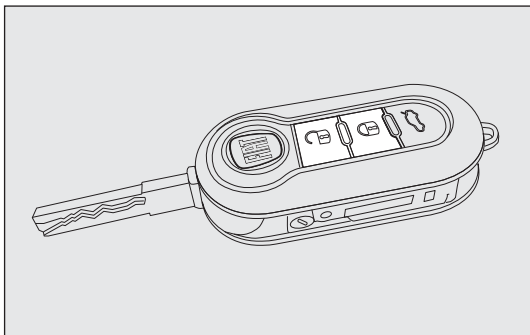
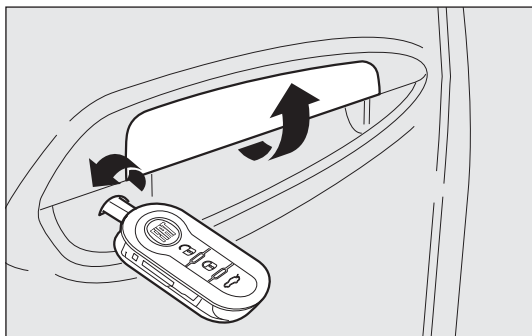
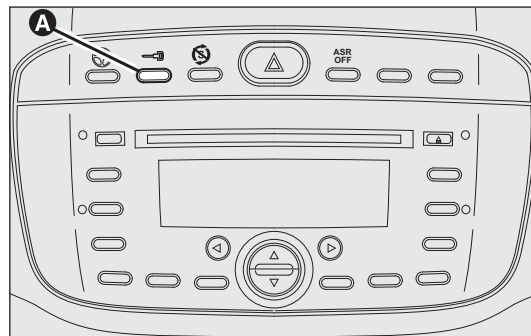

fig. 85
fig. 86
fig. 87
With the doors closed, press button  on the remote control fig. 85 or insert the key in the driver-side door and turn clockwise fig. 86. The locking of the doors is signalled by the LED on button A-fig. 87 flashing once. The doors can be locked only if they are all shut. If one or more doors are open after pressing button  on the remote control fig. 85, the direction indicators and the LED on the button A-fig. 87 flash quickly for approximately 3 seconds.
If one or more doors are open turning the key, only the button LED flashes. If the doors are closed but the boot is open, the doors are locked: the direction indicators (only when locking is carried out using button  fig. 85) and the LED on button A-fig. 87 flash quickly for approximately 3 seconds.
With this function on, you can still unlock the other doors by pressing button A-fig. 87 on the central control panel.
Double-tapping button  on the remote control fig. 85 activates the dead lock device (see “Dead lock”).
Briefly press button  fig. 85 to unlock the doors remotely, turn on the ceiling lights for a limited period and double flash the direction indicators, or insert the key into the driver’s door lock and turn it anti-clockwise as shown in fig. 86.
Press button A-fig. 87 to lock/unlock all doors. The button has an LED that indicates whether the doors are locked or unlocked. When the doors are locked, the LED is on and pressing the button brings about central unlocking of all the doors and turns off the LED. When the doors are unlocked, the LED is off and pressing the button brings about central locking of all the doors. The doors will be locked only if all the doors are properly shut.
it will not be possible to unlock them by pressing button A-fig. 87 on the dashboard.
- locking/unlocking button A-fig. 87;
The dead lock device is automatically activated on every door when you double-tap button  on the remote control fig. 85.
Device activation is indicated by 3 flashes of the direction indicators and the flashing of the LED on button A-fig. 87 on the dashboard.